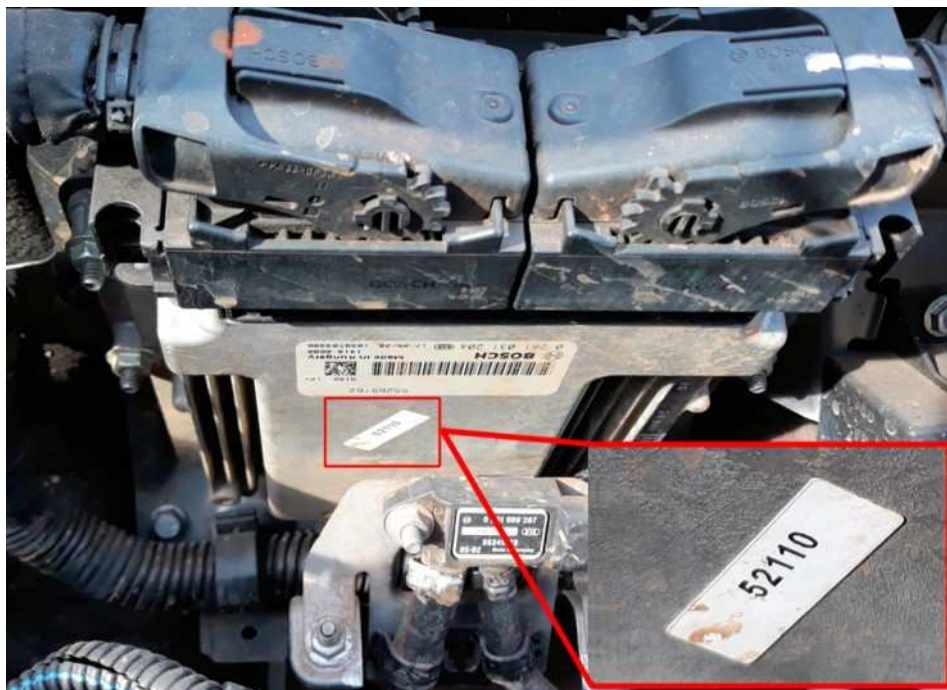

Fig. 1
4. Remove the PCM to replace the PCM calibration code sticker (Fig. 1) , located on the PCM housing. Refer to the detailed service procedures available in DealerCONNECT >Service Library >TechCONNECT Under: 08 - Electrical/8E - Electronic Control Modules/Module, Powertrain Control (PCM)/Removal and Installation.
NOTE: If the sticker with calibration code is not present on the PCM, attach a new sticker on the same position as shown in (Fig. 1) .